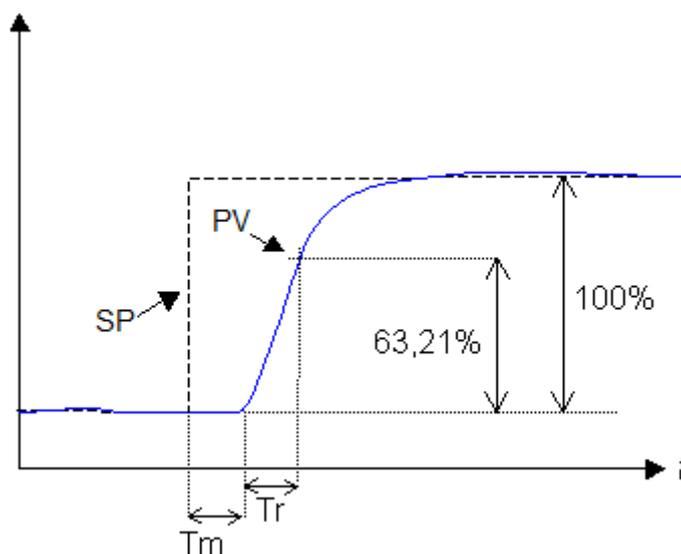

Figure 6-24. T_r Compared with a Time Constant
The response time T_r can be compared with a time constant of the closed loop, as shown in Figure 6-24.
It is observed that the temperature transmitter (TT) is located near the consumer, which is 20 meters from the point of heating the water. Processes like this are good examples of how dead times can be introduced. This is because the heated water at the point of heat takes some time to cover the distance from the measuring point to the consumer. Dead times were previously discussed (Figure 6-24).